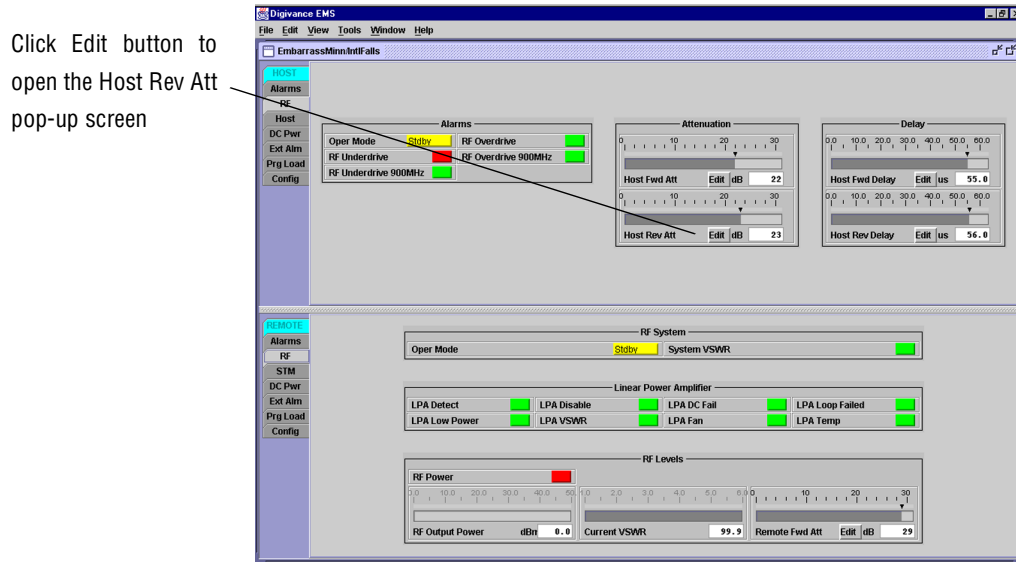
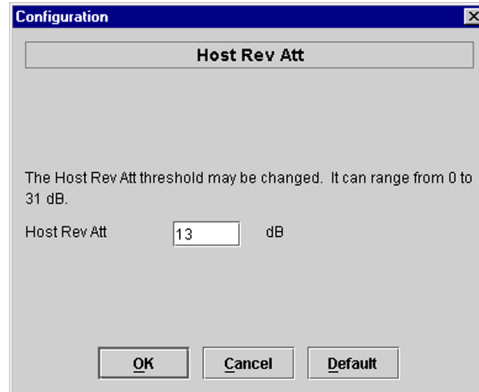

Figure 3-12. HOST RF Display
Figure 3-13. Host Rev Att Pop-Up Screen
4. Click on the **HOST RF** tab. The **HOST RF** display will open within the EMS main window as shown in Figure 3-12.
5. Click on the **Host Rev Att** field **Edit** button (see Figure 3-12). The **Host Rev Att** pop-up screen will open as shown in Figure 3-13.